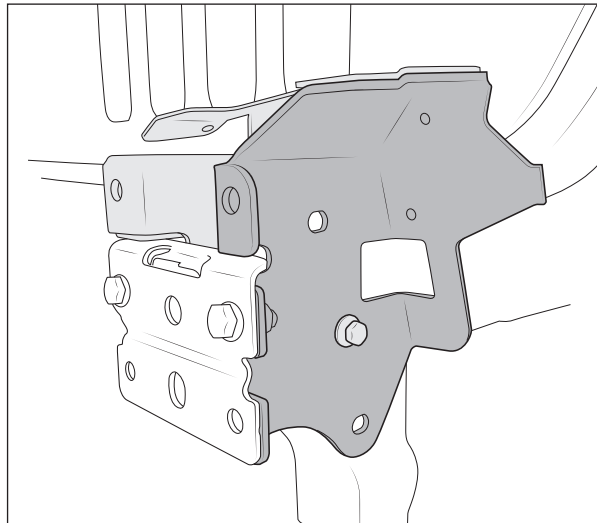

Figure 3
2. Temporarily install the factory M10 tow hook support bolts through AEV brackets and into the frame weld nuts to hold the brackets tight against the frame (fig. 3). Leave bolts fairly loose at this time. If installing a winch mount, only add M10 bolts to outboard brackets.